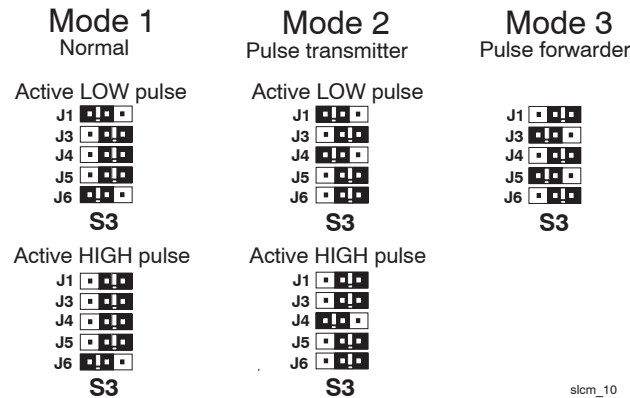

Fig. 6.4.1.-2 Default settings of jumper group S3.
The fibre optic connection of SLCM has three function modes: normal mode with LON (1), pulse transmitter mode (2) and pulse forwarder mode (3). The jumper settings for these modes are presented in figure 6.4.1.-2.